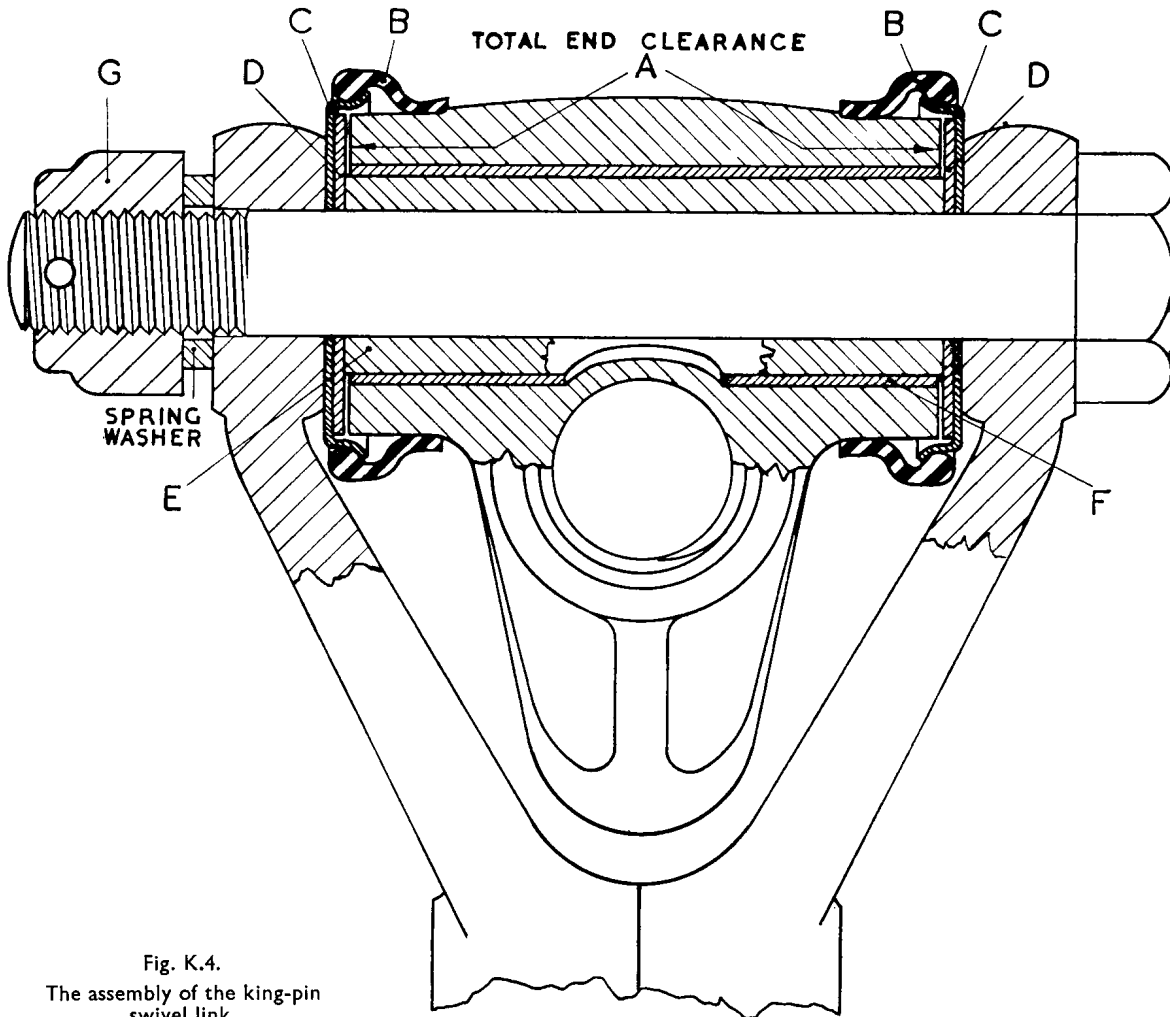

Fig. K.4.
Note.—When pressing in this bush see that the hole in the bush faces the threaded bore. (See Fig. K.4.)
When the swivel links, distance tubes and thrust washers are assembled, the **total** end clearance between the link and the thrust washers should be .008 in. to .013 in. (.2 mm. to .33 mm.). (See "A," Fig. K.4.)
retainers are assembled in the right order. (See Fig. K.4.)
3. Before the lower steering knuckle link is bolted in position ensure that both thrust washers and rubber seals are fitted correctly (see Fig. K.4) and make sure that the links have a total end clearance of .008 in. to .013 in. (.2 mm. to .33 mm.) between the end faces of the link and the thrust washers.
Note.—Take care that the thrust washers, rubber seals and retainers are assembled in the right order. (See Fig. K.4.)